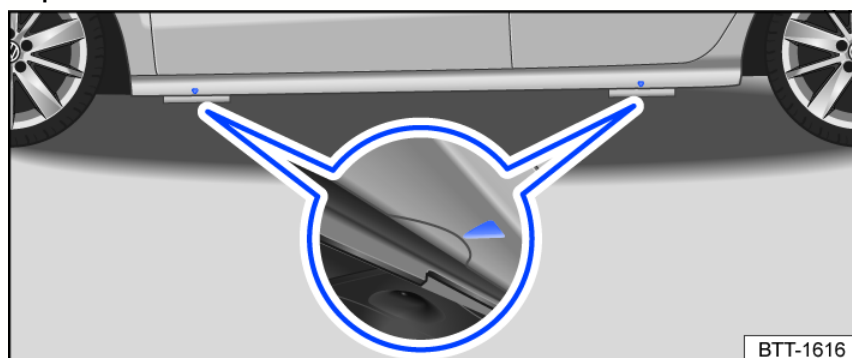

Fig. 176 Mounting points for the vehicle jack
The vehicle jack must only be positioned at the reinforced areas on the underbody that are located behind the markings on the vehicle body *fig. 176*. The lift point that is nearest the affected tire should be used ⇒ ⚠.
9. Find the vehicle lift point *fig. 176* under the vehicle that is closest to the wheel you will be changing.